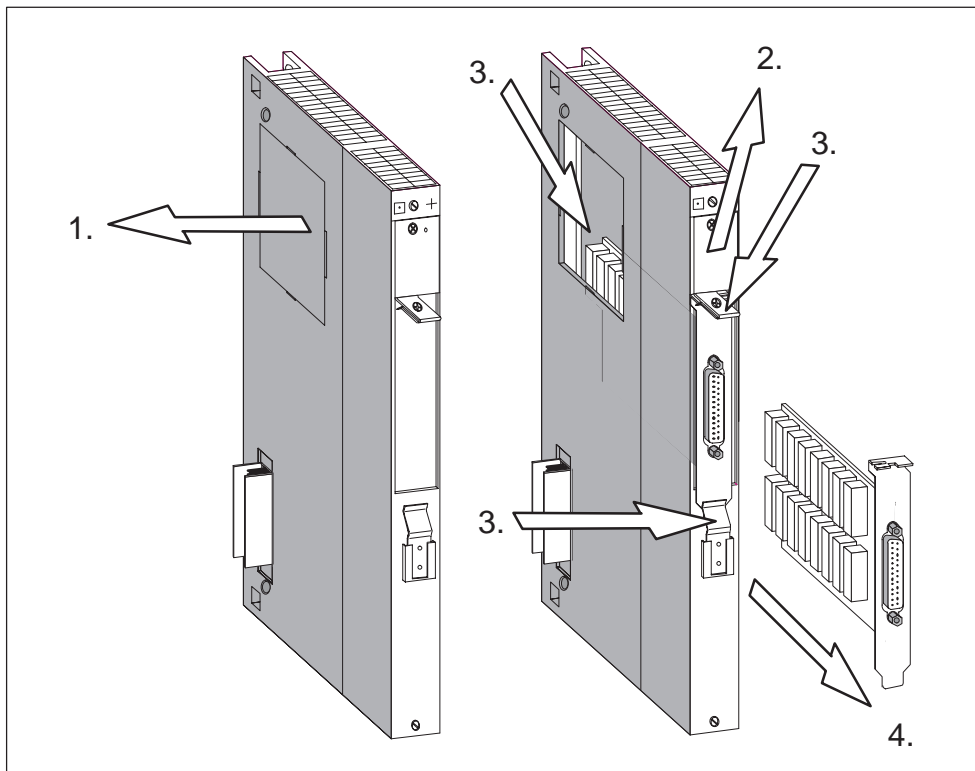

Figure 3-9 Removing an AT Module from an ATM 478 AT Adapter Module
Then proceed as follows (see Figure 3-9):
1. Remove the cover from the top left hand side of the ATM 478 (see Figure 3-9).
2. Unscrew and remove the fixing bracket from the AT module carrier plate (see Figure 3-9).
3. Push the AT module slightly upwards (3.) so that its carrier plate slides out from under the retaining spring (4.) on the front of the ATM 478. Then pull the AT module upwards out of its connector, grasping it from the front and through the side opening (see Figure 3-9).
4. Pull the AT module out of its slot from the front (see Figure 3-9).